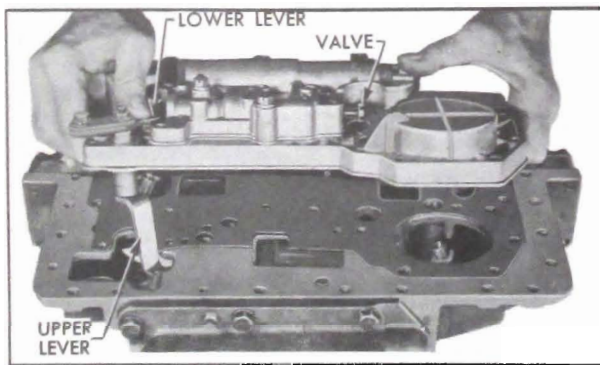

Figure 5-31—Removing Valve and Servo Body Assembly
8. Lightly pry upward on the assembly to free the gasket between servo body and transmission case. Push shift control valve and lower operating lever inward to align the lower lever with opening in transmission case, then remove the assembly. See figure 5-31. CAUTION: Do